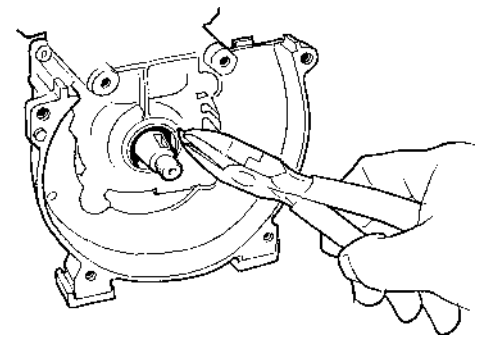

Figure 8.2 Removing the Woodruff key from the crankshaft.
STEP 4. Use diagonal pliers to remove the crankshaft woodruff key (Figure 8.2).